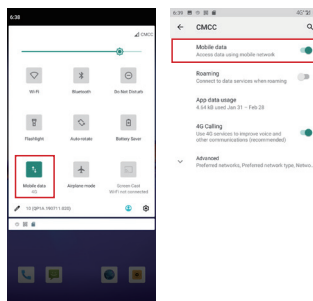

Figure 5-4 Network opening
- Connection settings: Back to the main interface and scroll down the screen, it will see the automatic acquisition of the network connection. A long press the network icon, it will enter the mobile data interface, as shown in Figure 5-4: